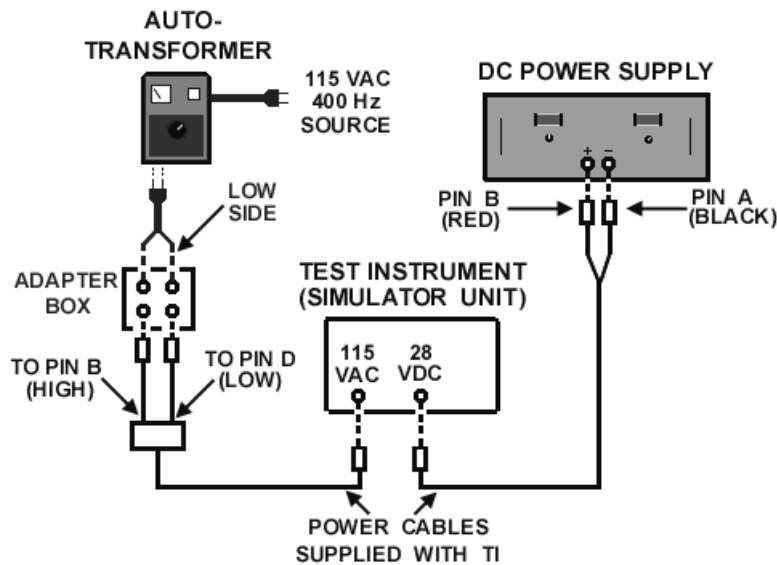

Figure 1. Power supply - equipment setup.
- c. Connect equipment as shown in figure 1.